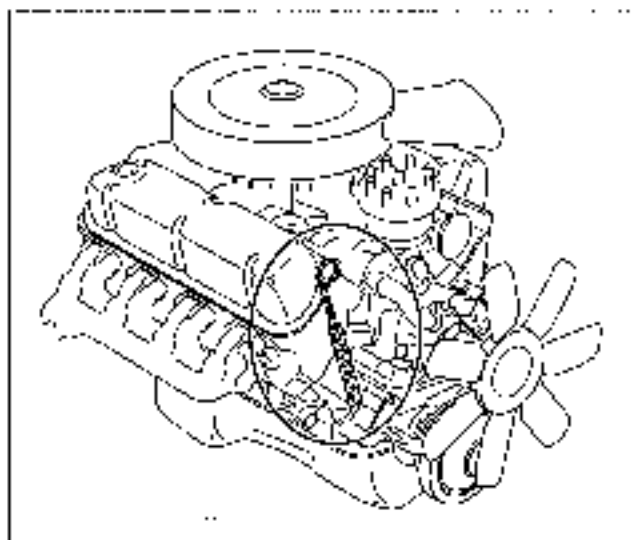

Figure 3-8:
1. When the engine is cold (or has been off for at least ten minutes), pull out the dipstick (the one with a ring on the end of it that sticks out the side of the engine, as shown in Figure 3-8) and wipe it off on a clean, lint-free rag.